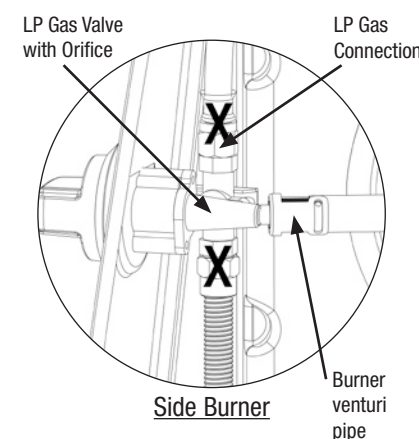

Figure 3
2. Make sure control knobs are (OFF) position. (Figure 3)
3. All control knobs must be in the (OFF) position. (Figure 3)